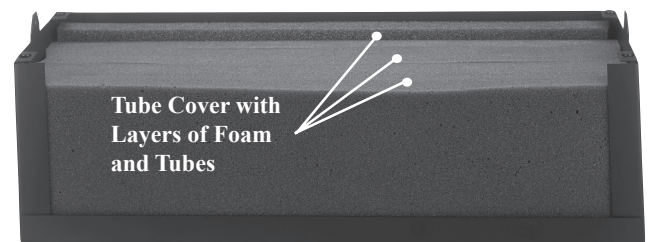

Figure 2
5. Orient the Tube Cover to the wide opening along one side of its longer dimension. Refer to figure 2.